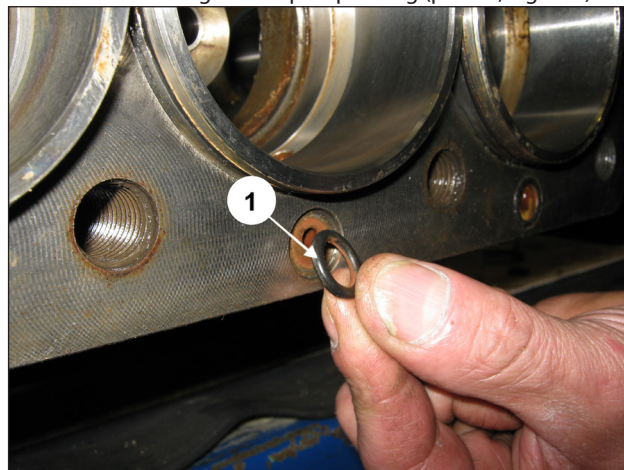

Fig. 118
Fit the 6 front O-rings in the pump casing (pos. ①, Fig. 118).